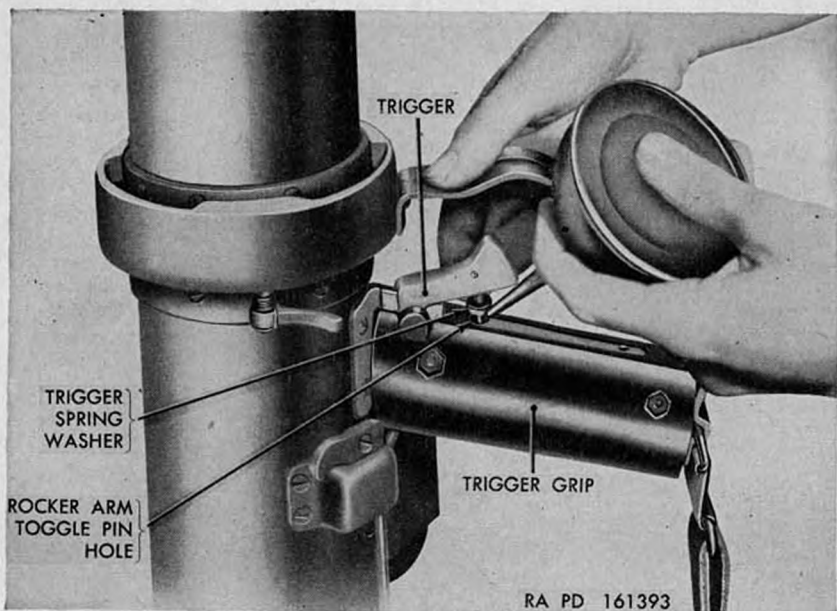

Figure 24. Lubrication of electrical firing mechanism 7313326.
- (1) Weekly, lift the trigger spring and washer (fig. 24) to expose the opening in the rocker arm cover for the toggle pin. Inject a few drops of oil into this opening (fig. 24).
- (2) Monthly, remove grips (par. 46a) and clean parts of any dirt or corrosion. Apply a film of oil to all metal parts. This operation is restricted to the organizational mechanic only.